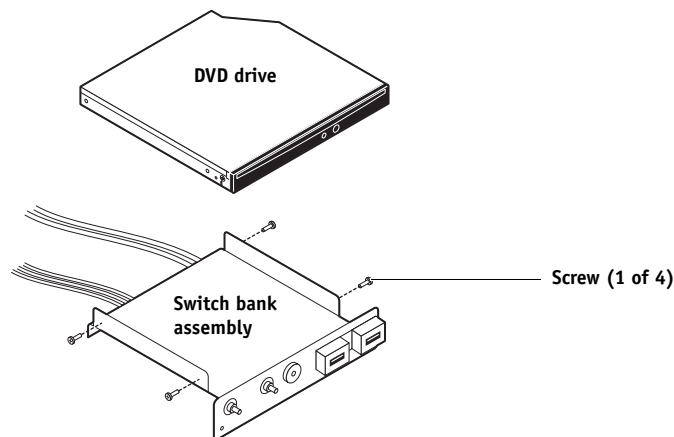

FIGURE 47: Removing/replacing the DVD drive
4. Remove the four screws that secure the DVD drive to the switch bank assembly (see Figure 47).
1. Secure the DVD drive to the switch bank assembly using the four screws that you removed earlier (see Figure 47 on page 130).